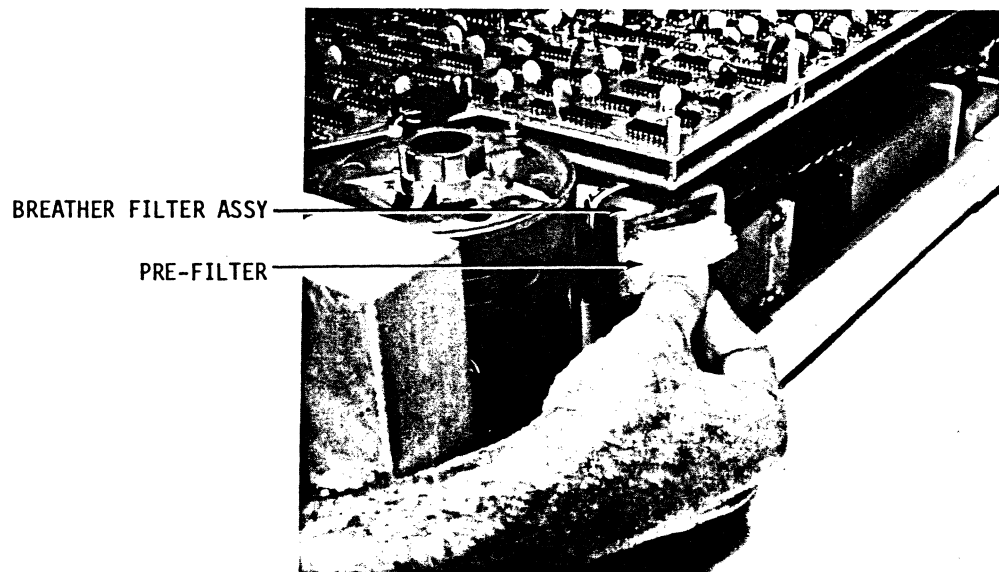

Figure 5-20
The drive clean air filters comprise a main filter and a make up air breather filter. Figure 5-1 shows the location of the main air filter and the blower assy. The breather filter is mounted on the rear left hand side of the drive (see Fig. 5-20).
c) To replace pre-filter element remove old element and replace with new element. This part is removed with fingers and requires no tools, as shown in Fig. 5-20.